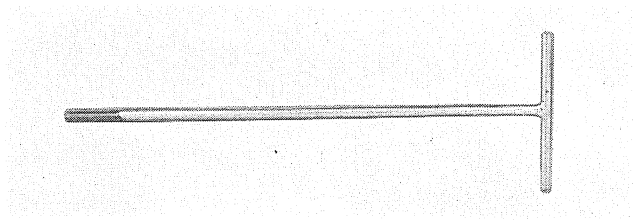

Fig. 4-3-9
2) By using a front fork puller, set the front fork in position, and tighten the lower bracket mounting bolt. (Figs. 4-3-9 and 10)